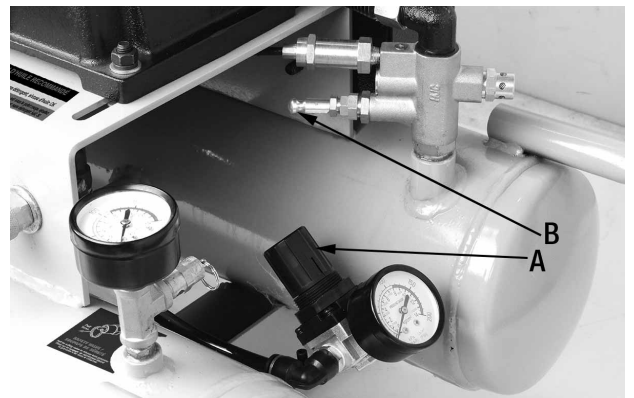

FIGURE 7
- 2) Pull then turn regulator knob (A) Fig.7 counterclockwise to open air flow.
- 3) Move load master valve lever (B) Fig.7 to a horizontal position (unloaded position) as shown to allow the compressor pump to run without compressing air.
- 6) After 15 minutes, move load master valve lever (B) Fig.7 down (loaded position) and turn the regulator knob clockwise. The compressor will begin to pump air in the air tanks.